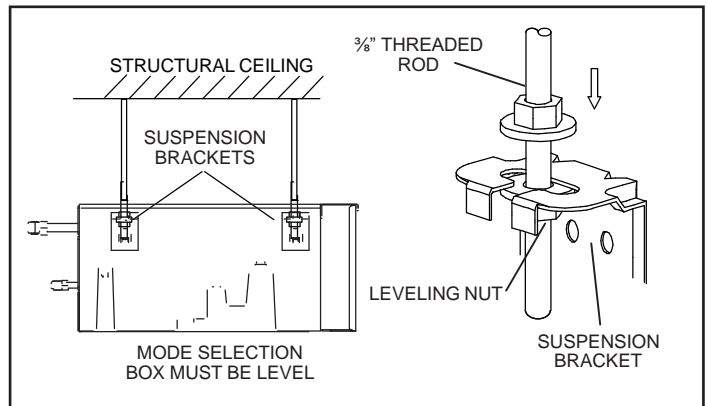

Figure 2. Suspension Hardware
- The mode selection box must be leveled after installation. See figure 2.
3. Raise the mode selection box and insert the threaded rods into the suspension brackets. Slide a washer and then a nut onto each rod below each suspension bracket. Use the leveling nut (beneath suspension bracket) to adjust the mode selection box. Remove the electrical tape holding the upper washers and nuts in place and tighten each of the four nuts above the brackets down onto the brackets. The mode selection box must be level. See figure 2.